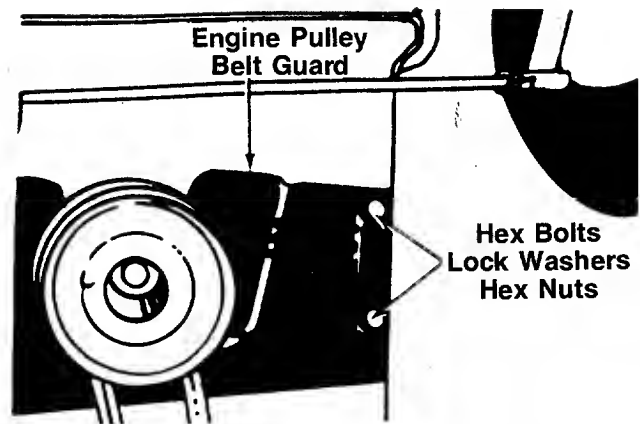

FIGURE 22.
5. Remove the two bolts, lock washers and nuts on each side of the frame which hold the engine pulley belt guard to the frame. See figure 22.